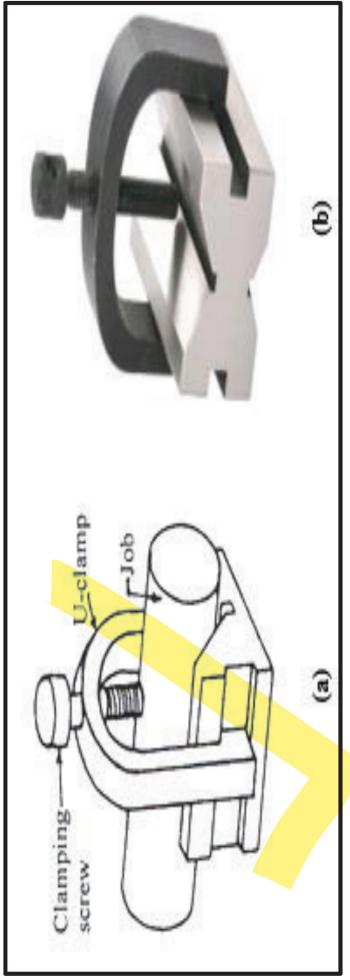

Figure 2.14 (a) V- Block with U-Clamp, and **(b)** its use
2.2.3.3 V-Block: V-Blocks as shown in figure 2.14 (a) and (b) usually are made of steel in casehardening. It is used for holding cylindrical work piece for marking out or machining operations such as drilling a hole in cylindrical work piece. V-Block are used along with U-Clamps or C-Clamps, which are used to support the cylindrical work piece on V-Block.